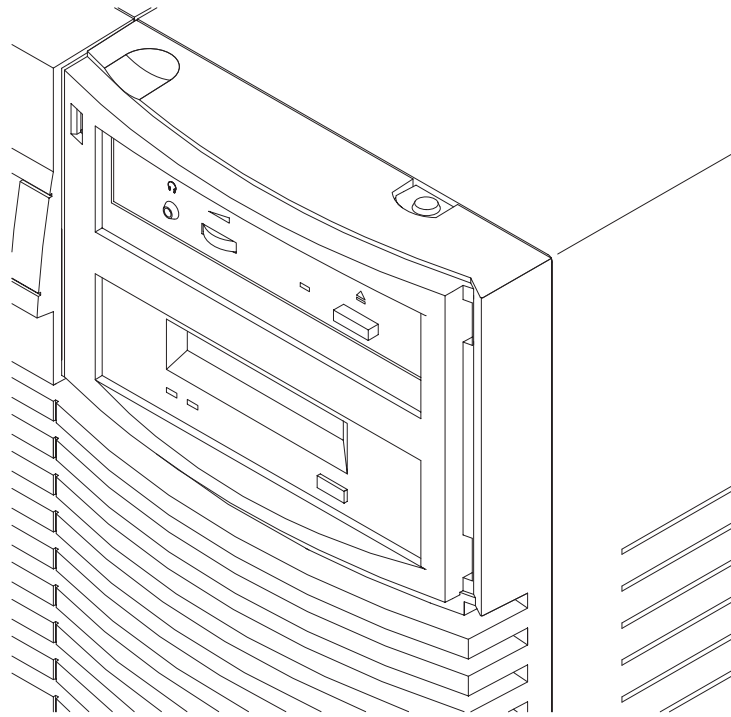

Figure 2-7. Disc Tray Closed
4. Gently push the disc tray in until it is closed, as shown in Figure 2-7.